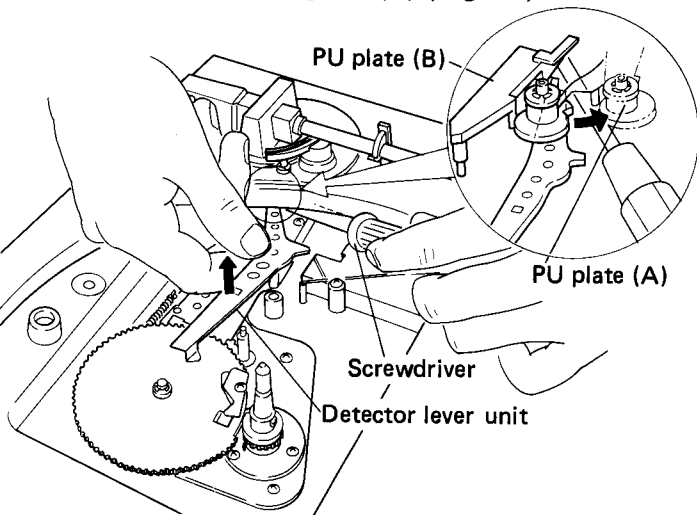

Fig. 3-1 Remove detector lever unit
1. Hold the detector lever unit with your right hand as shown in Fig. 3-1, open the PU plate (A) and PU plate (B) of the PU plate (B) assembly with your left hand, and carefully pull out the detector lever unit upward.
2. Install the detector lever unit in reverse sequence of the removal. In this case, however, note that the detector lever unit will be bent when the pin portion (A) is in contact with the detector lever unit and the detector lever unit is pushed hard.
3.2 REMOVAL AND INSTALLATION OF PU PLATE (B) ASSEMBLY